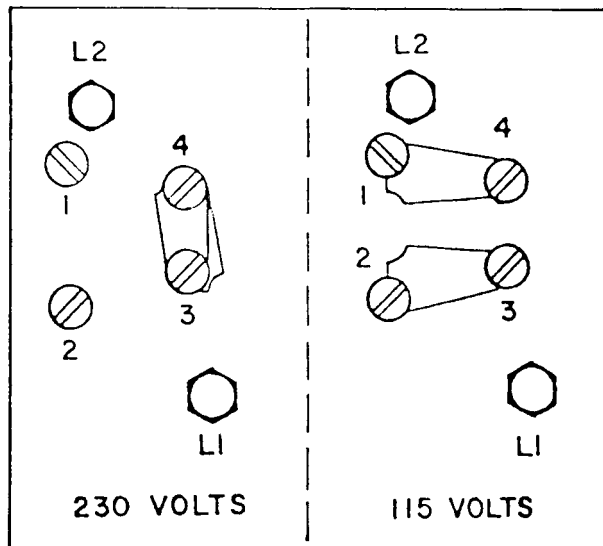

Figure 3. Motor Jumper Location
- d. The motor comes equipped with wire and plug for 115-volt ac operation. For 230-volt operation, change the wire and plug and refer to Figure 3 to convert the motor.